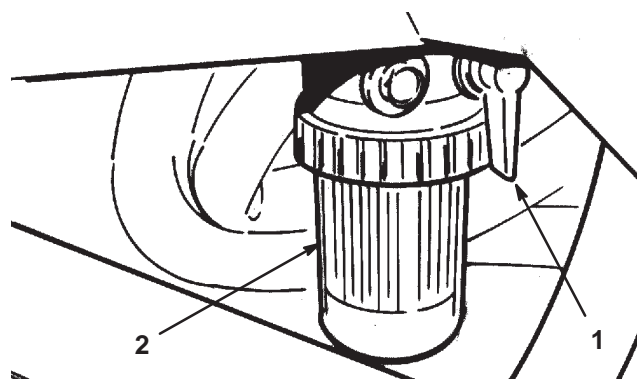

Figure 26
1. Close the fuel shut-off above the filter (Fig. 26).